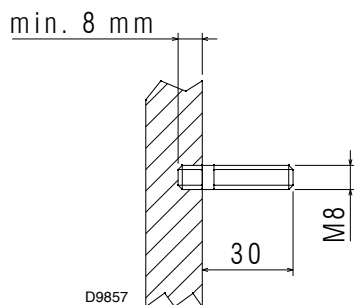

Fig. 7
- Fit the fixing pins as shown in the Fig. 7.